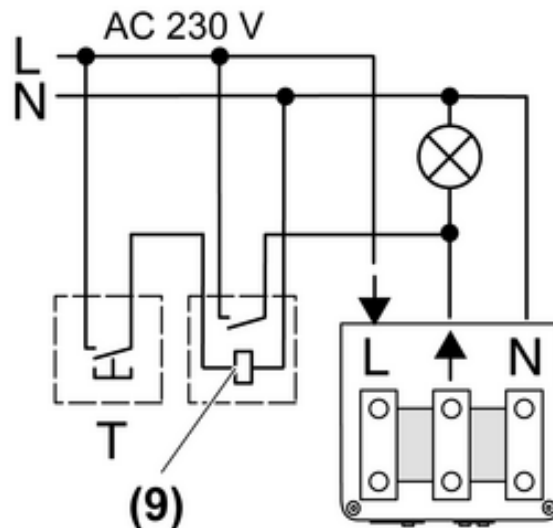

Figure 8: Connection in parallel with automatic staircase light switch / impulse relay
The lighting is switched on either by the automatic staircase light switch (9) or by the power pack in combination with radio motion detectors (Figure 8).